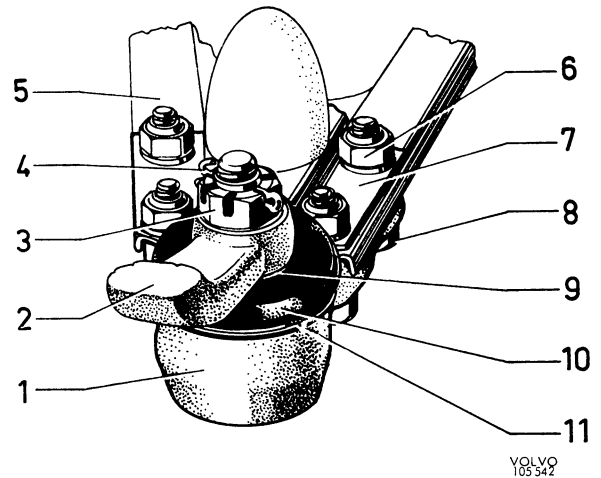

Fig. 6-26. Lower ball joint attachment
3. Unscrew the nuts (6, Fig. 6-26) and remove the four bolts (8). Remove the nut (3).
1. Check to make sure the rubber seal is not damaged and fill with grease. If necessary, fill with universal grease. Make sure that the sleeve and lock rings take up their proper position, see Fig. 6-26.
5. Disconnect the stabilizer from the lower wishbone. Remove the four attaching bolts (8, Fig. 6-26) and disconnect the lower ball joint from the wishbone.